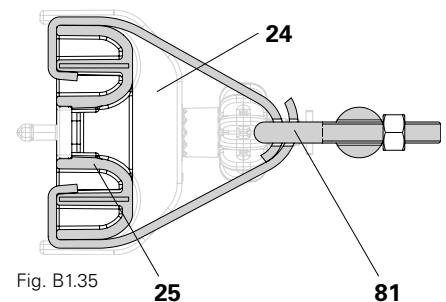

Fig. B1.35
2. Fit at least two DUO 62 compensation walers (**25**) onto each vertical joint on panel DP 135 (**10**). Choose the correct position depending on the SB brace frame so that the DUO SB hook strap (**81**) is correctly positioned. (Fig. B1.35)